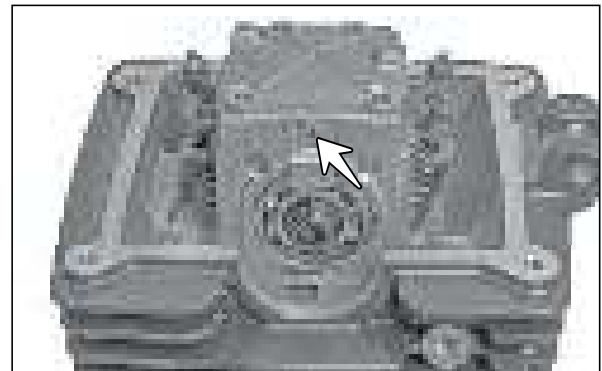

Fig. 3.51
- Remove the REC CSK head screw (M5x15 - 1 No.) from the stopper camshaft and dislocate and take out the stopper camshaft. (Fig. 3.51)